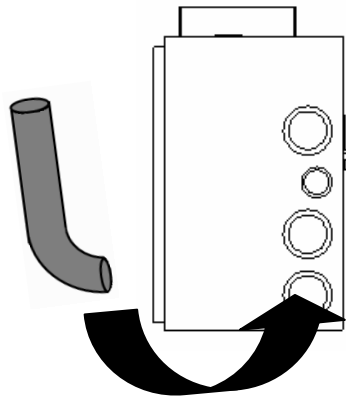

Figure 7.1.1: Implement a conduit to the wiring box
- A) Since the wiring box has been opened during mounting procedures, used the necessary tools to knockout an opening hole in the desired location on the wiring box for AC cables and insert a conduit as shown in figure 7.1.1. If the top cover of the wiring box is not removed yet, please remove the top cover of wiring box before this procedure started.